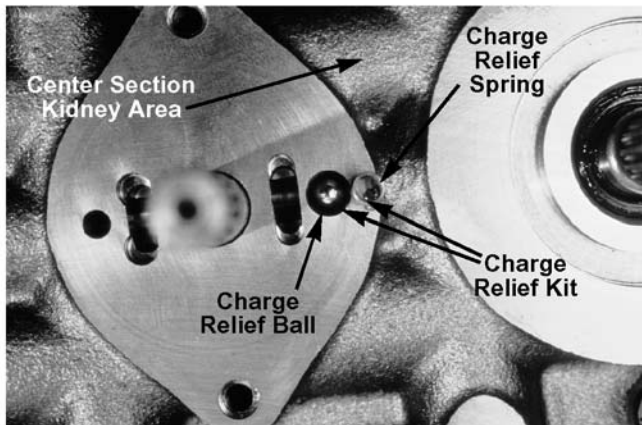

Figure 5-18.
21. Removal of the housing screws will allow the disassembly of the center section from the housing. See Figure 5-18.